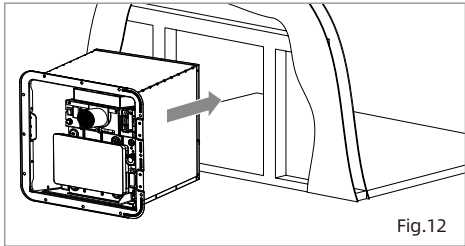

Fig.12
1. Position the water heater carefully into the frame opening , evenly space the flange to the exterior wall of the RV. (Fig.12)